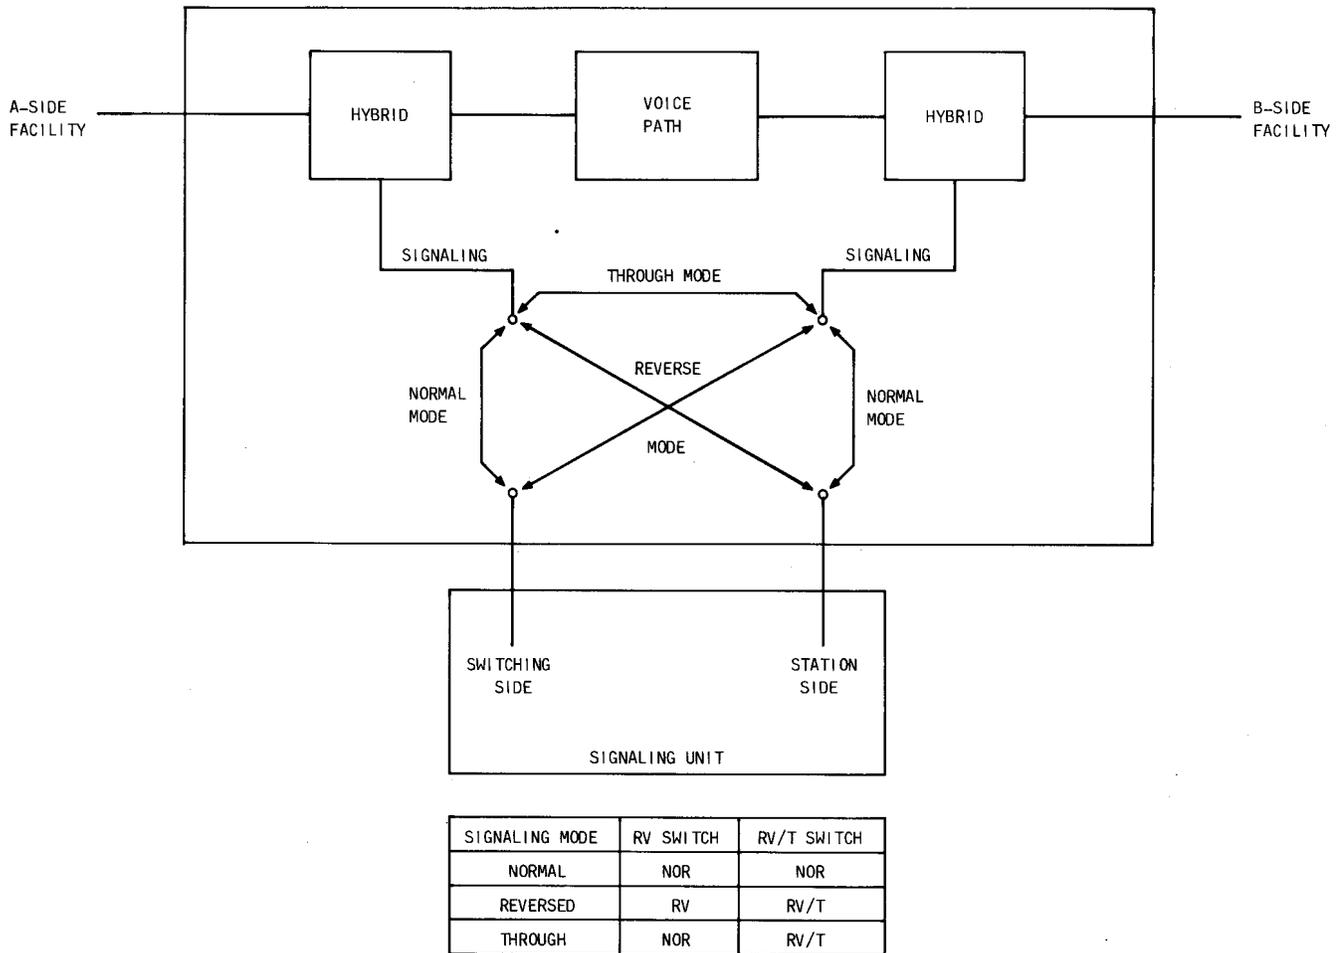

Fig. 1—RV RV/T Switch Settings
1.07 A & B type signaling leads with simplex (SX) inductors are available on both sides of the repeater. A slide switch labeled SX SH shorts the SX inductors to the switching side of the signaling unit when signaling applications do not require their use. Two other slide switches labeled RV and RV/T permit selection of three signaling modes; NORMAL, REVERSE, or THROUGH. In the NORMAL mode, the A-side A&B leads are connected to the switching side of a companion MFT signaling unit and the B-side A&B leads are connected to the station side. In the REVERSE mode, the connections at the signaling unit are reversed: A-side A&B leads are connected to the station side of the signaling unit and the B-side A&B leads are connected to the switching side. The THROUGH mode interconnects the A- and B-side signaling leads when a companion signaling unit is not required. Fig. 1 is a pictorial diagram of the lead connections with the switch settings required for each.